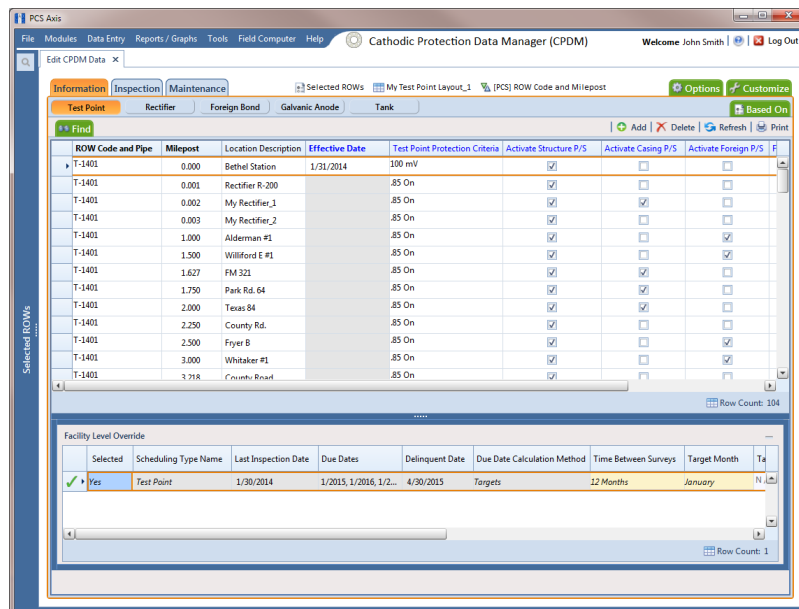

Figure 7-8. Add Record
- e Provide other facility data in the grid as needed, such as *Permanent Comments* (Figure 7-8).